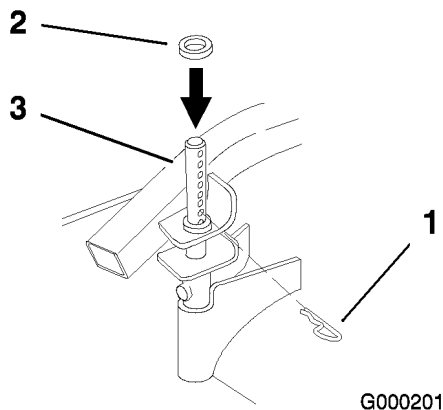

Figure 13
1. Remove the existing rear hairpin cotter pins from the rear height-of-cut posts (Figure 13).
2. Install a spacer onto both rear height-of-cut posts and install the hairpin cotter pins (Figure 13).